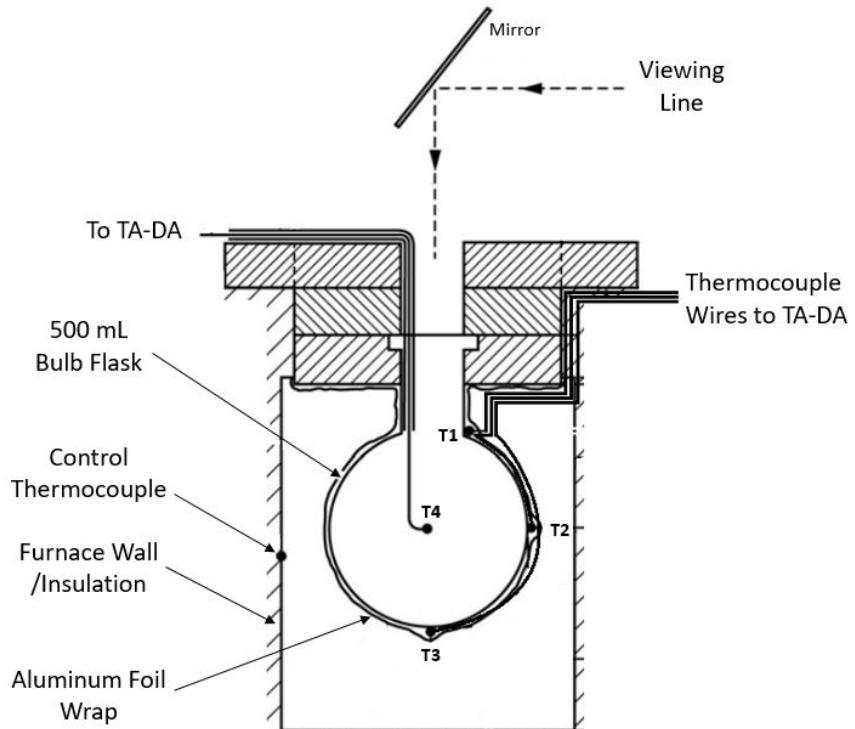
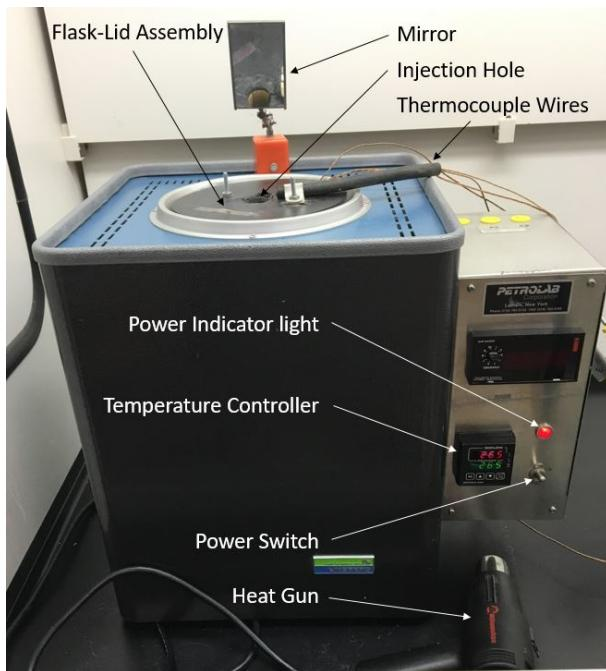

Figure 4: Diagram of the furnace when assembled
Figure 6: AIT Furnace
- The final setup should resemble Figure 4
- The furnace, shown in Figure 6, is an encased stack of ceramic insulation with cavities cut out to allow space for the heating elements and the test flask (see Figure 4 for an internal diagram of the furnace). The furnace is controlled with measurements taken at the insulated furnace wall. This design causes the furnace to have large temperature gradients while in operation. As a result, the setpoint temperature and the flask temperature will almost always differ significantly (as much as 25 K in some cases). Therefore, setpoints must be chosen between approximately 10 - 20 K above the desired temperature to reach that temperature inside the flask. **The reported AIT must be taken from the internal flask temperature (Thermocouple 4) and NOT the control thermocouple inside the furnace**
### 1.2.2 Furnace Operation (See Figure 6)